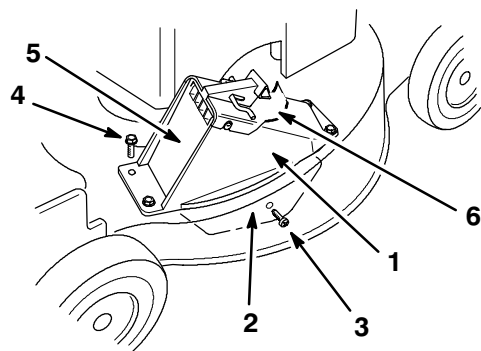

Figure 41
1. Grommet (4)
7. Insert the tongue of the discharge tunnel into the lawn mower (Fig. 41).
8. Align the holes in the tunnel with the grommets in the lawn mower (Fig. 41).
9. Ensure that the hole in the tongue aligns with the hole in the side of the lawn mower (Fig. 41).
10. Install the self-tapping plastite screw supplied with the grass catcher into the side hole and tongue, and partially tighten the screw (Fig. 41).
11. Using three screws supplied with the grass catcher, fasten the discharge tunnel to the lawn mower (Fig. 41).
14. Open and close the tunnel door to ensure that it moves freely (Fig. 41).